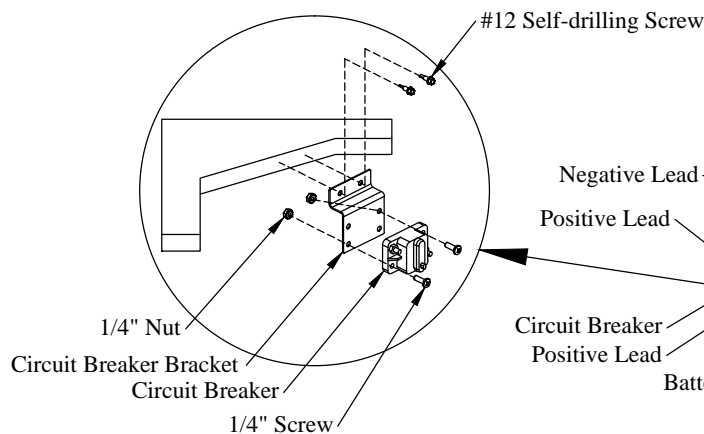

Figure 13: Circuit breaker bracket.
1. **Install** the circuit breaker on the circuit breaker bracket with 1/4" screws and nuts (Figure 13).